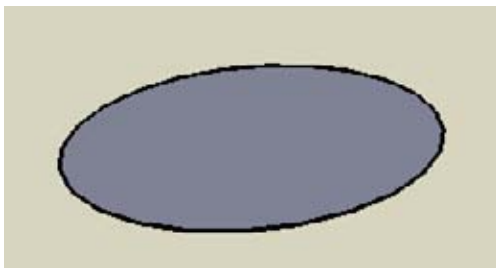

Figure 2-70
1. Start with a circle in the red-green plane (Figure 2-70). This will be the Follow Me path.